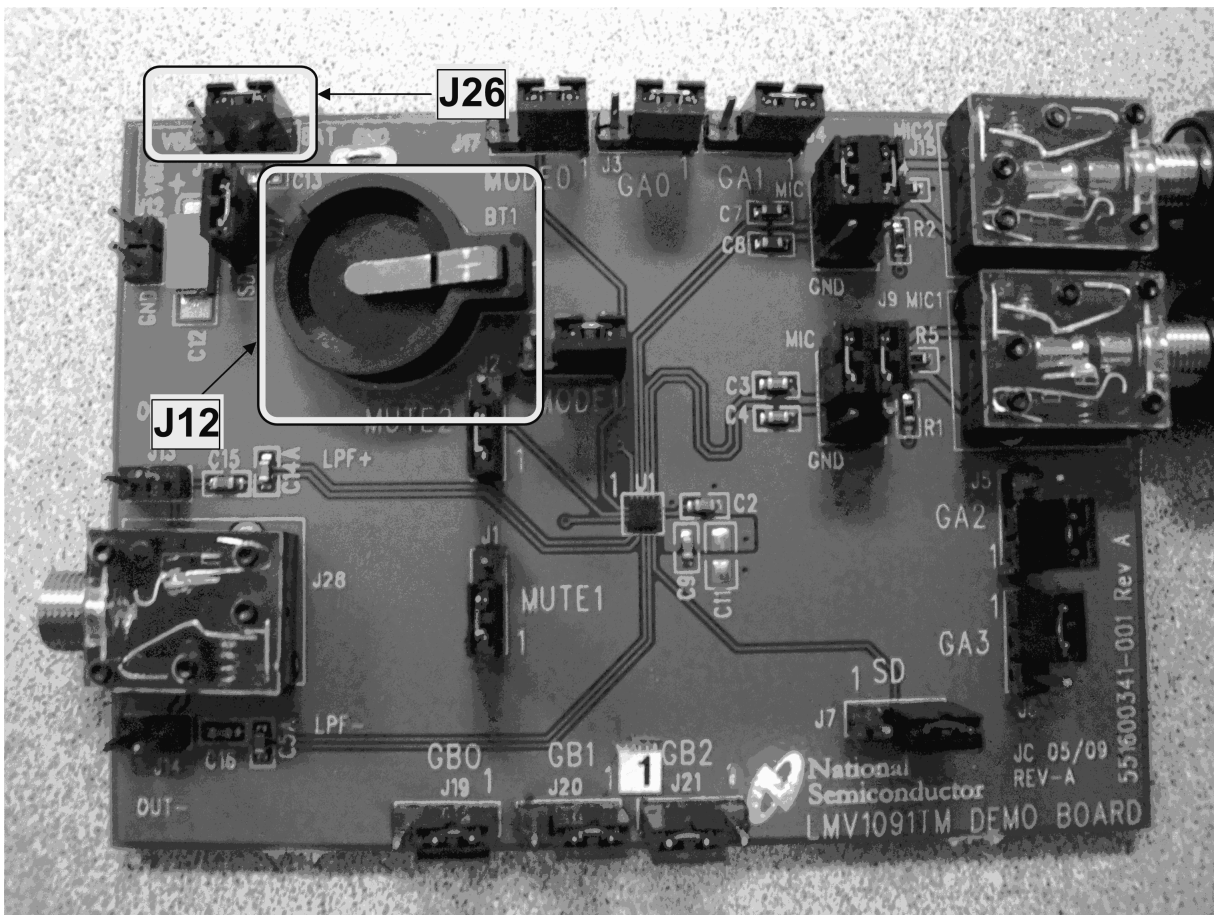

Figure 4. Battery Power Supply
- using a small battery placed in battery holder mounted on the PCB. See Figure 4. For a limited time, the demo board can be operated from the board battery (CR1220 placed in the battery holder BT1). To operate the board using a battery, J26 must be configured as shown in Figure 4.